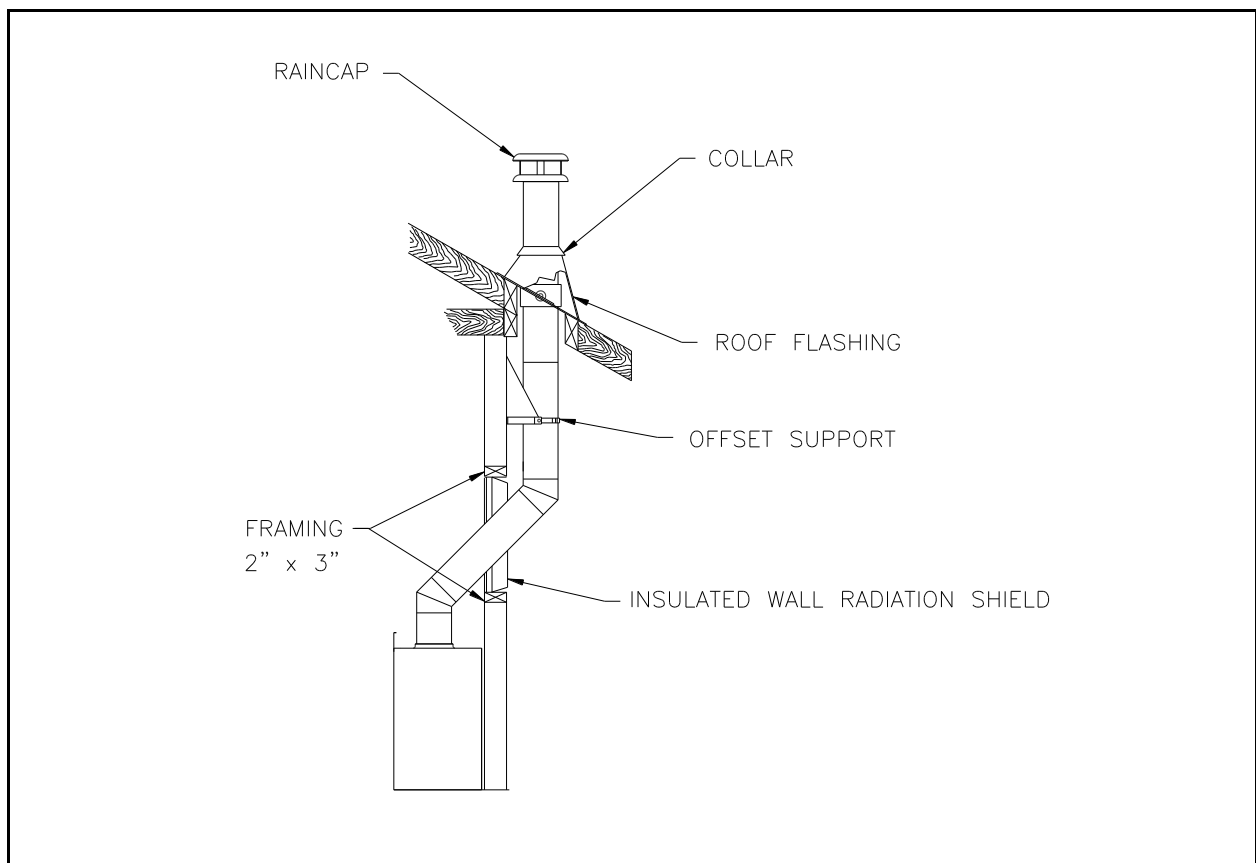

Figure 32
1. Install the first elbow; turn it in the required direction. Fasten it to the chimney with the three (3) \_" (12 mm) metal screws provided with the elbow.
2. Install the necessary chimney lengths to achieve the required offset. Lock the chimney lengths together: it is recommended to use three (3) \_" (12 mm) screws. If the offset length is made of two (2) chimney lengths or more, use an offset support halfway up the offset. If penetrating a wall, install a wall radiation shield (see figures 32 & 33).
3. Use another elbow to turn the chimney vertically. Secure the elbow, using three (3) \_" (12 mm) screws (provided with the elbow).